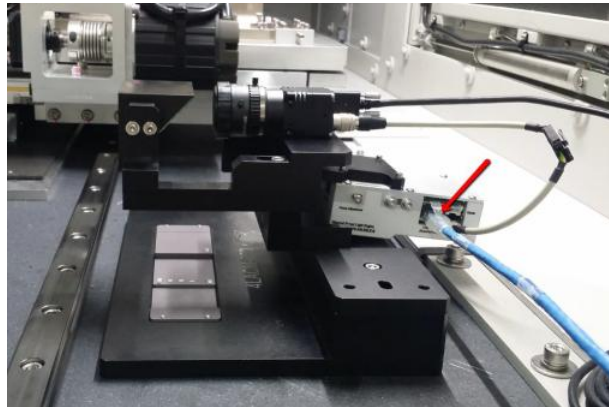

Figure 7 PSP 2 PROJECTOR PORT
7. The other end of Cat 5 cable will be connecting to PSP 2 Projector Port as below Figure 7.